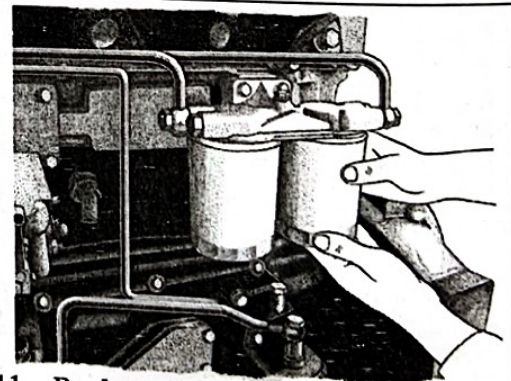

Fig3-11 Replace Diesel Fuel Filter Element
4.3 Replace diesel fuel filter element: remove single use filter element with special tools (see Fig3-11). Before installing new filter element, daub a thin coat of oil on the sealing ring, then fix with the unloading torque.